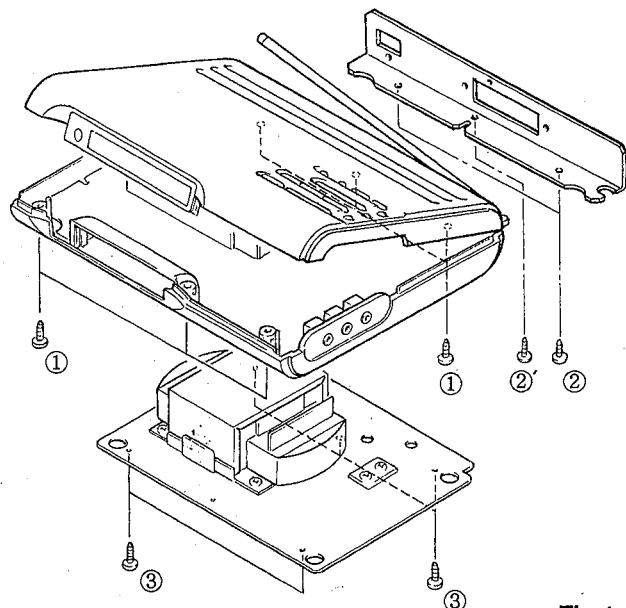

Fig.1
- a. Remove 6 screws (①) in Fig.1.
- a. Remove 2 screws (②) in Fig.1.
- b. Remove 1 screw (②') in Fig.1.
- a. Remove 5 screws (③) in Fig.1.